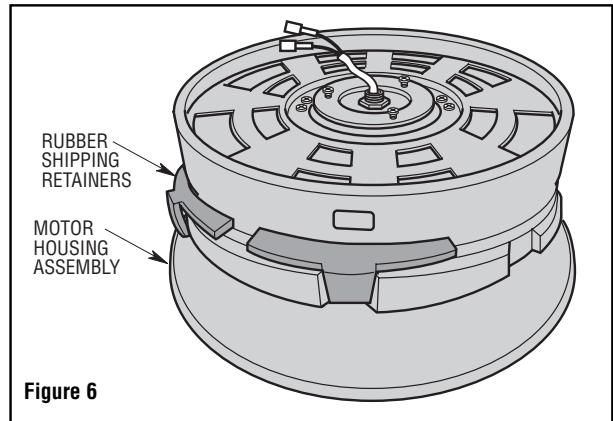

Figure 6
- Remove and discard the four rubber shipping retainers securing the motor hub in the motor housing assembly (Figure 6).